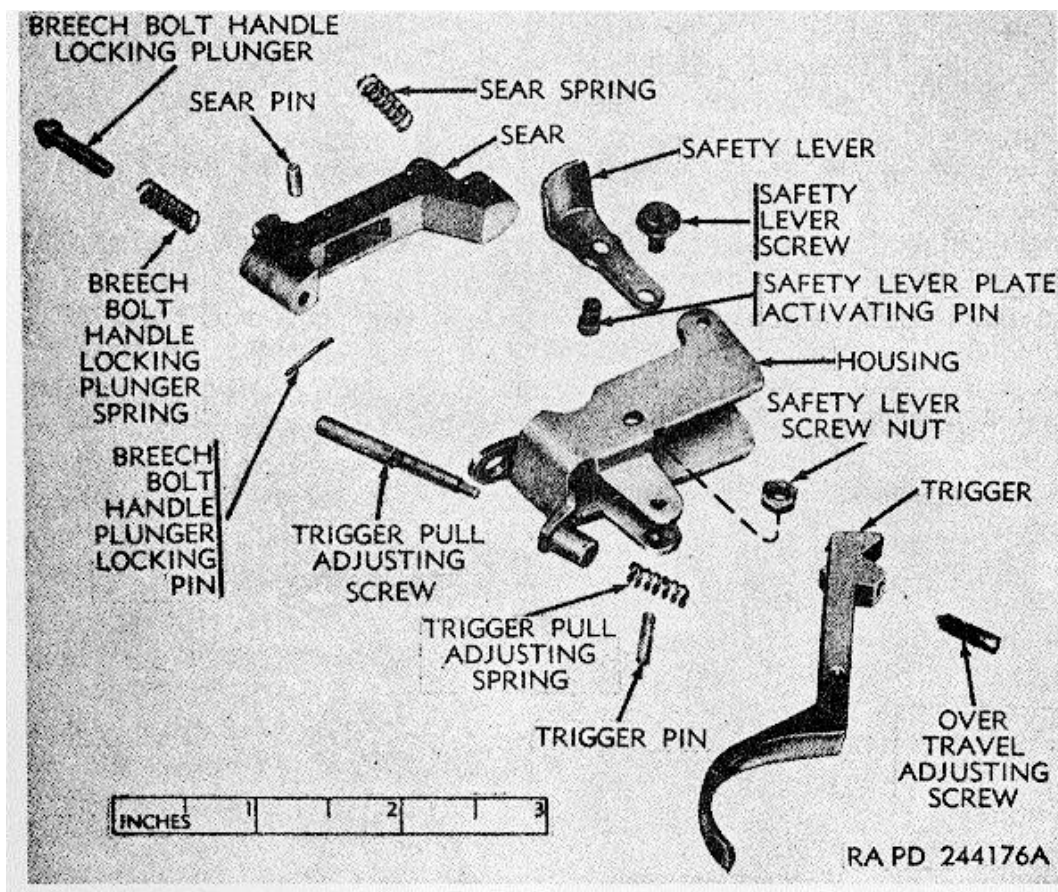

Figure 61. Housing assembly-exploded view (Winchester rifle M52 (HB)).
- (1) Unscrew magazine holder front and rear screws from the bottom of the receiver, and remove the magazine holder assembly. Remove breech bolt guide (ejector) from ejection opening of the receiver.
- (2) Drift the magazine catch pin out of the side of the holder, and remove magazine catch and spring.
- (3) Disengage the rear loop of the safety lever spring (M) from the right end of the safety lever plate activating pin, and loosen the safety lever screw a few turns until the safety lever can be lifted off the right end of the safety lever plate activating pin. Removing the safety lever from the activating pin disconnects the housing assembly from the safety lever plate.
- (4) Remove the front housing screw (K) and nut (B) from the receiver.
- (5) Remove the rear housing screw (N) and two washers (P) from the receiver.
- (6) Disconnect the safety lever plate from the protruding sear pin by pushing the safety lever plate activating pin (fig. 61) forward.
- (7) Remove housing assembly (L) from its opening in the receiver and remove the small sear spring.
- (8) Unscrew the safety lever screw and nut and remove safety lever (fig. 61) from the center of the housing.
- (9) Drift out trigger pin from the bottom of the housing and remove the sear and the trigger (fig. 61) as a unit from the top of the housing. Remove over-travel adjusting screw from the trigger.
- (10) Remove the trigger from its aperture in the center of the sear. Remove breech bolt handle plunger locking pin (fig. 61) from the plunger and slide out plunger and plunger spring from the sear.
- (11) Slide the trigger pull adjusting spring (fig. 61) from the bottom of the trigger pull adjusting screw and remove screw from housing.
- (1) Using the screwdriver 5564038 (fig. 43), screw the trigger pull adjusting screw (fig. 61) into its hole in the front of the housing, and slide its spring over the protruding bottom end of the screw.
- (2) Place sear spring in its seat in the front of the sear (fig. 61). Insert breech bolt handle locking plunger spring in its seat in the front of the sear and insert the locking plunger through the spring; compress the spring and secure in place by installing breech bolt handle plunger locking pin (fig. 61) in hole in bottom of plunger.
- (3) Screw the over-travel adjusting screw (fig. 61) into its hole in the trigger and insert top of trigger through its hole in the sear.
- (4) Install assembled sear and trigger through the top of the housing (fig. 61) and align trigger pin holes in trigger and housing and insert trigger pin through housing and trigger.
- (5) Align safety lever (fig. 61) with its hole in the housing, and see that lever
- (6) Install safety lever screw (screw head to the right) through the lever and the housing and secure both of them to the right side of the housing by placing the safety lever screw nut (fig. 61) to the left of the screw and housing wall and by tightening the screw a few turns.